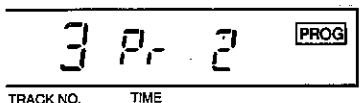

Fig. 13e
6. Press the MEMORY switch. The PROG indicator will remain "ON". (Fig. 13e)